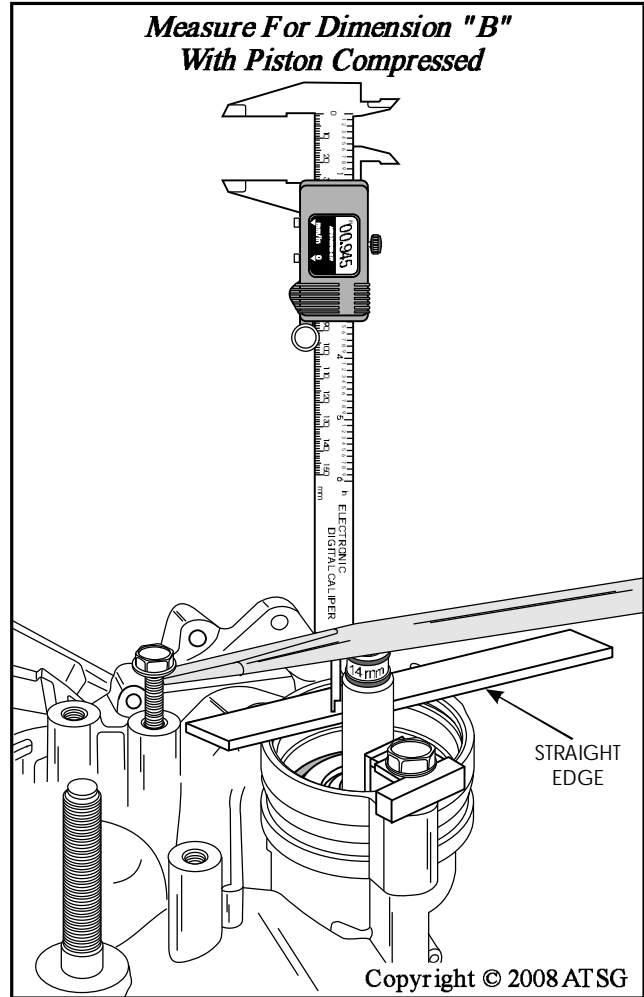

Figure 219
14. Fully compress the servo piston and the 14mm socket, using a large screwdriver, as shown in Figure 219.